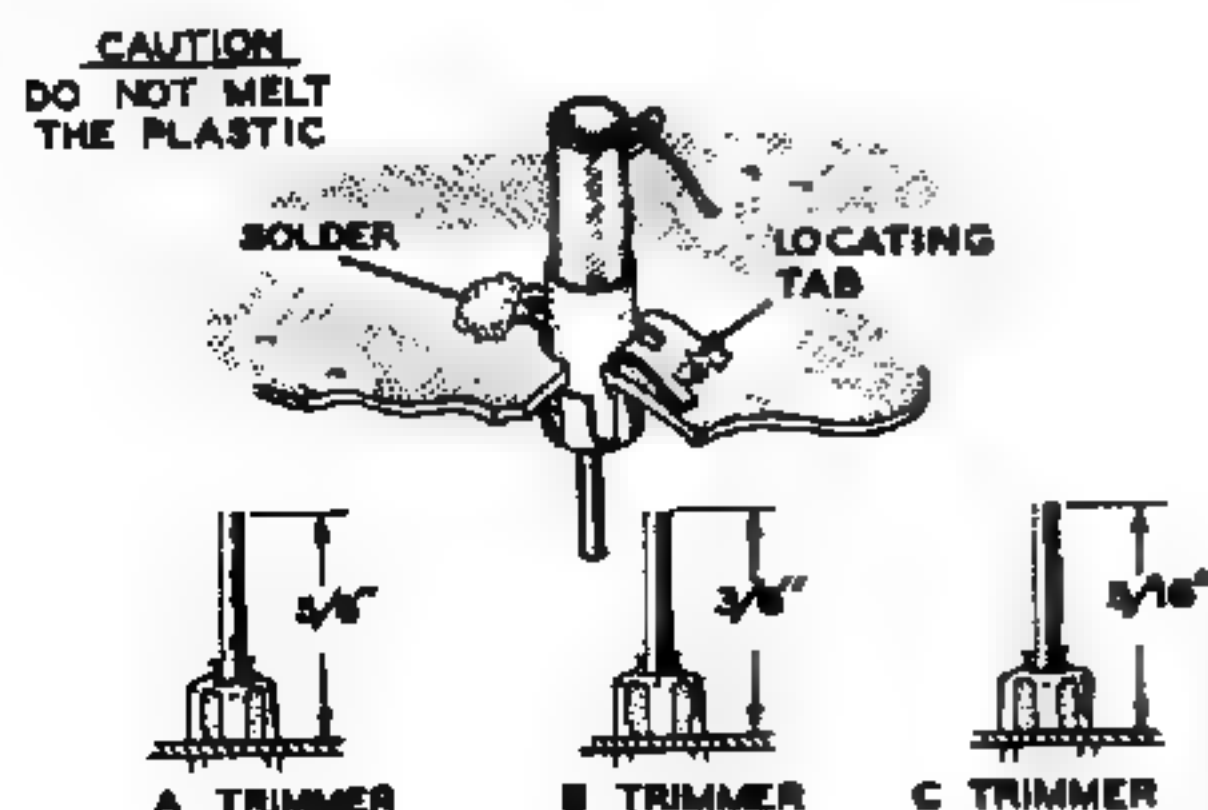

Figure 17
- ( ) Referring to Figure 17, adjust the height of the screw on A TRIMMER, B TRIMMER, and C TRIMMER, as shown.
- (✓) C6, C5, C4. Insert a plastic trimmer in hole A TRIMMER, B TRIMMER, and C TRIMMER from the bottom of the circuit board, see Figure 17, and solder the tab as shown.